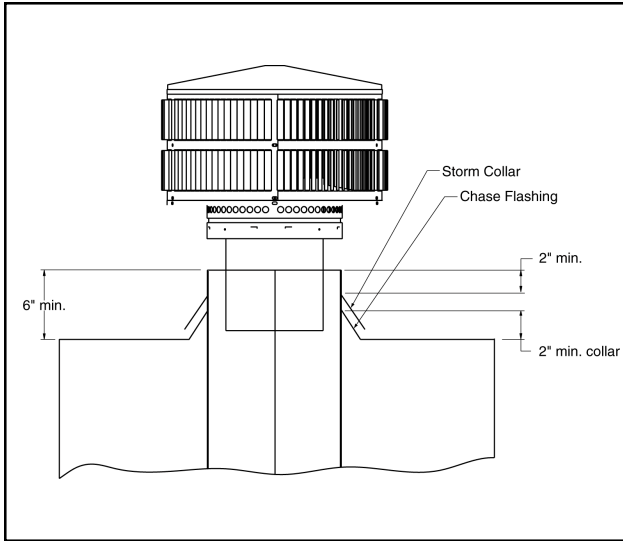

Figure 22 - Installing a TR11 Round Termination Cap
- a. Install the chimney sections up through the chase enclosure. When using a TR11 round termination cap, the uppermost top section of pipe must extend 6" above the top of the chase collar to allow installation of the storm collar and termination cap. See Figure 22.